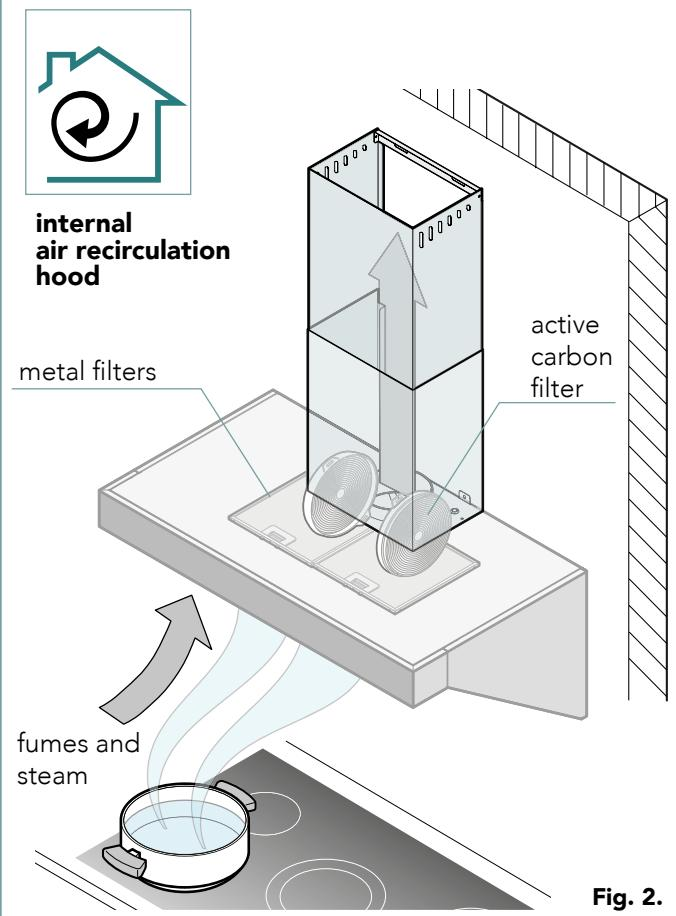

Fig. 2.
are **funneled through** one or more carbon filters (usually one or two) to be purified: the clean air is then blown into the room thanks to the grid holes placed on the top of the hood's chimney (filtering or internal recirculation cooker hood - Fig. 2.).
**active carbon filter:** this is only found in internal air recirculation models (Fig. 2.), and must be removed and **replaced** approximately every **3-4 months**, depending on use.